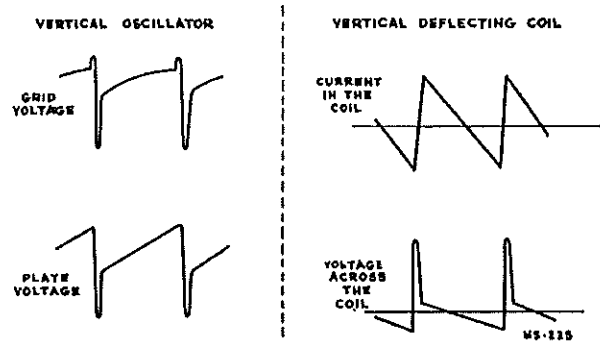

Figure 8—Vertical Sweep Waveforms
**R-F Oscillator**—The oscillator line is similar to the others except that an adjustment is provided for each channel and the low-frequency coils are not figure 8 windings. For tuning each channel, adjustable brass screws are placed in close proximity to the high-frequency tuning straps L66 to L76, and adjustable brass cores are provided for coils L54 to L62. These adjustments are accessible through the front panel of the cabinet when the station-selector escutcheon is removed. Field service adjustments of the r-f oscillator are thus possible on all channels except 6 and 13. If adjustments are necessary on these two channels, the chassis must be removed from the cabinet in order to gain access to the adjusting screws on L63, L64, L77 and L78. The high-frequency adjustments should be made before each lower-frequency adjustment.
On the plate (2) of V107, a sawtooth of voltage appears due to the slow charging and rapid discharging of C130. A sharp negative pulse also occurs during the discharge period. (See Figure 8.) This pulse appears because of the peaking action of R149 and C130. When the tube is conducting, the plate voltage drops almost to cathode potential. C130 discharges during this time. However, since the conduction time is short, C130 cannot be completely discharged due to the time constant of R149 in series with C130. Then when the tube becomes non-conducting, the plate voltage does not have to rise slowly from cathode potential but instead rises immediately to an appreciable value due to the charge that remains on C130. The plate voltage then slowly rises from this value as C130 charges through R139, R141, R142, and R149. Adjustment of the height control R141 varies the amplitude of the sawtooth voltage on the plate by controlling the rate at which C130 can charge.